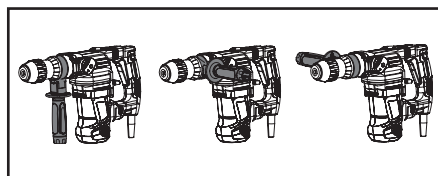

Fig. 4
- Prior to securing it in place, turn the handle to such a position that the hammer drill is held firmly, safely and comfortably during work, see Fig. 4.